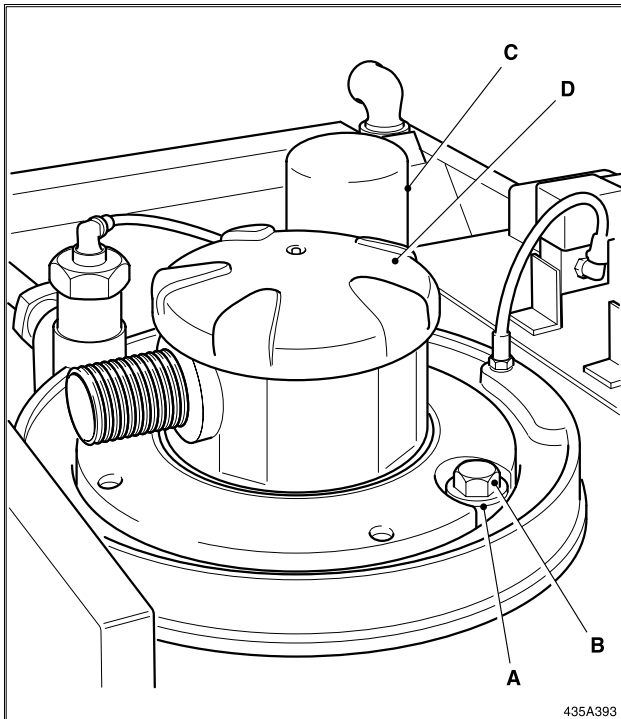
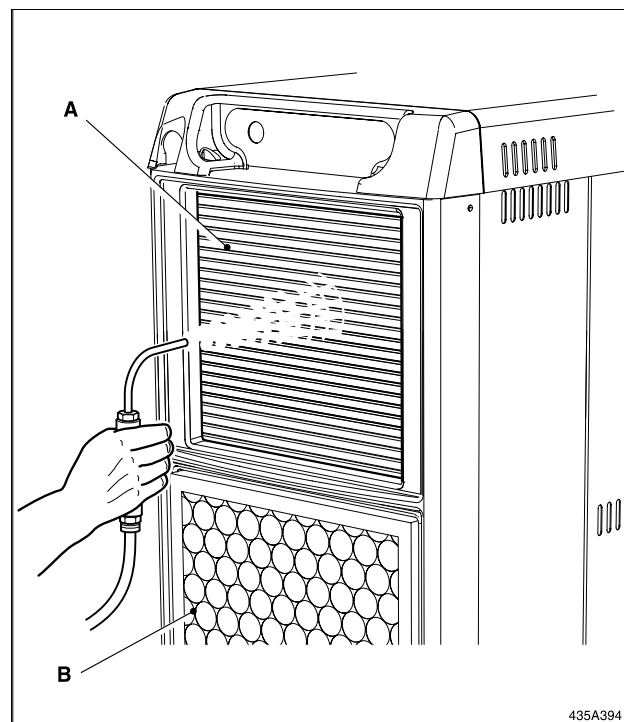
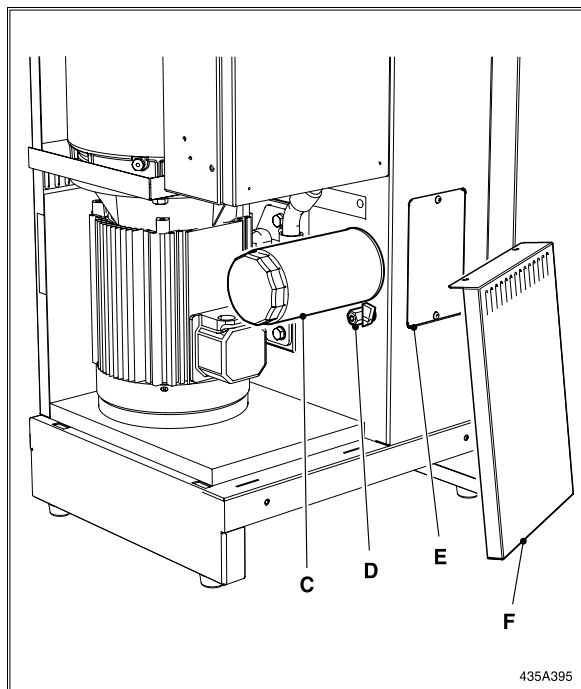

Fig. 18 - Oil Filler Plug, Air Filter and Separator Element Location
Fig. 19 - Matrix Cleaning
Fig. 20 - Oil Drain and Filter Location
10.4 Basic Service Fig. 18 and 19
Remove two hexagon headed screws mounted vertically upwards into the bottom of the starter enclosure that secure the lower right hand side steel panel (Fig. 20(F))
Remove the two screws that retain the small cover plate on the right hand side of the unit (Fig. 20(E)) to gain access to the bypass filter and impellor area behind the intake filter for cleaning.
10.6 Oil Draining & Filter Replacement Fig. 18 and 20
10.7 Oil Draining Fig. 20
- (a) Remove the filler plug Fig 18 (B) and bonded seal (A) to allow air to enter the compressor to aid drainage.
- (b) Place a suitable container below the drain point and remove the drain plug from the end of the tap (D), turn the tap and allow the oil to drain from the compressor.
10.8 Oil Filter Replacement Fig. 20
- (a) Unscrew the filter (C) in an anti-clockwise direction quickly to avoid oil spillage from the canister, wipe up any spillage and discard the old filter in a safe manner.
- (c) Refit the filler plug Fig 18 (B) and bonded seal Fig 18 (A), renew the bonded seal if damaged and tighten using a spanner, do not over tighten.
10.10 Air Filter Replacement Fig. 18
10.11 Oil Separator Replacement Fig. 18
- (a) Unscrew the oil separator (C) in an anti-clockwise direction and discard in a safe manner.
10.12 Clean Oil Cooler/After cooler Fig. 19 and 20
- (b) Using a low pressure air line, less than 2 bar pressure, blow a jet of air over the whole area of the matrix (A). Dirt dislodged can be removed using a vacuum cleaner placed through the access to the bypass filter and impellor area behind the cabinet filter (B) (Part No. 74695).
- (c) Gain access to the rear of the cooling fan filter by means of removable panel (E).
- (d) Using a standard household vacuum cleaner, remove any dislodged debris through the access hole (E).